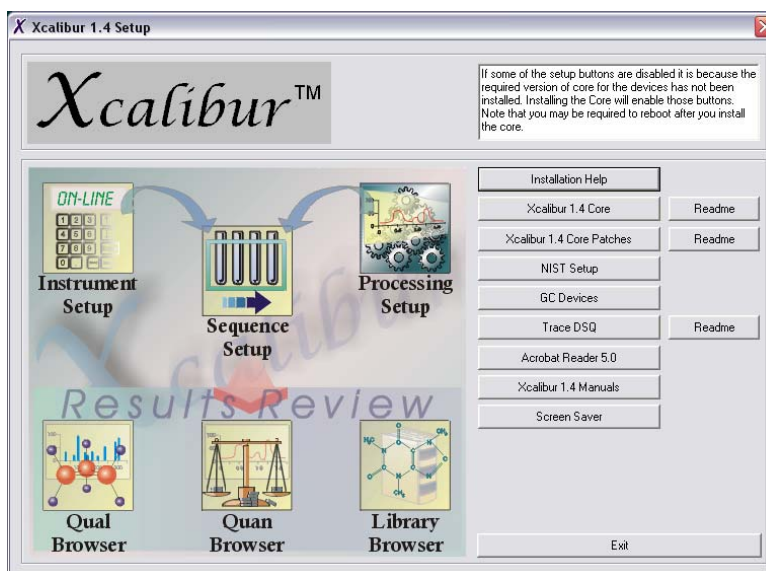

Figure B-8 *Xcalibur Data System Setup Screen*
- a. Insert the **Xcalibur CD** into your computer. This should automatically display the **Xcalibur Setup screen** (Figure B-8). If it doesn't, use windows to run the **XInstall.exe** from the CD.